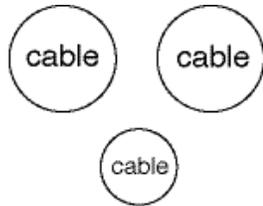

Figure 15
**Note:** If you have three cables, arrange them in a triangle shape. See Figure 15.